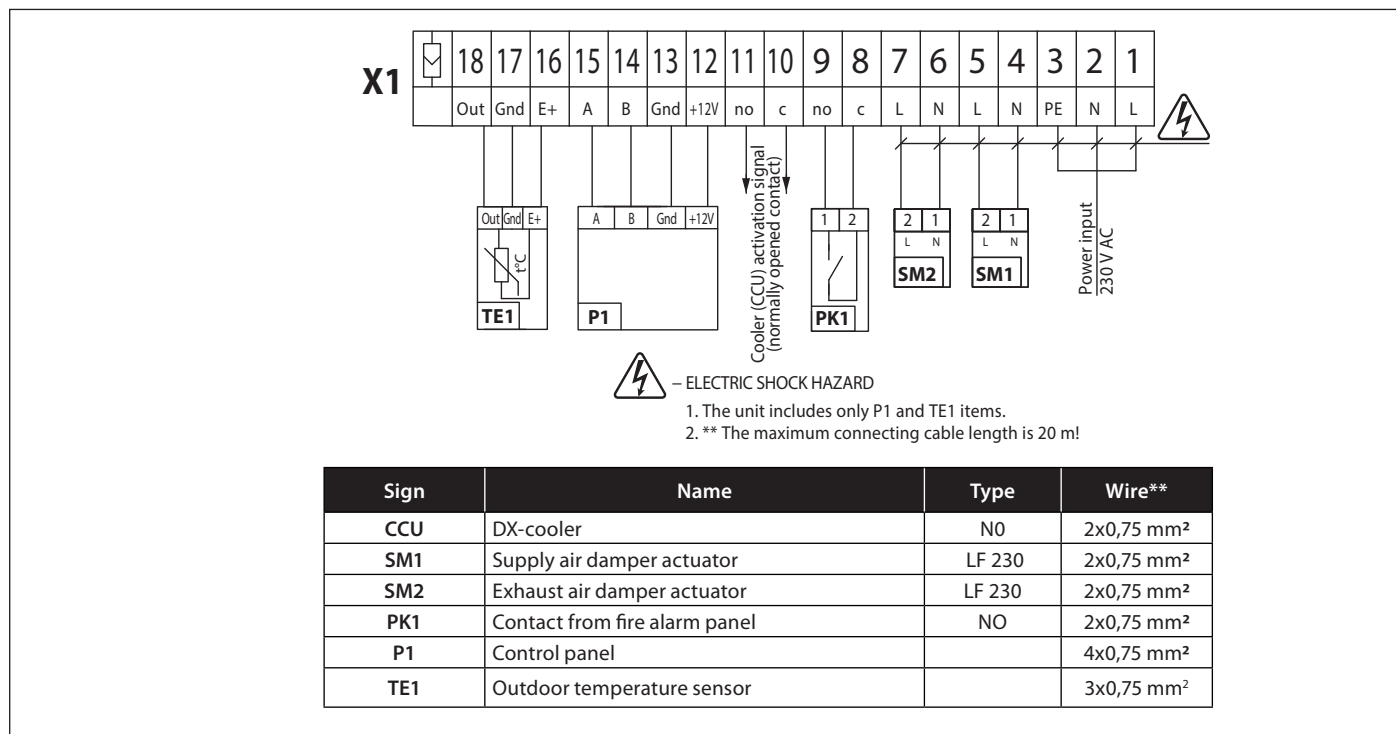
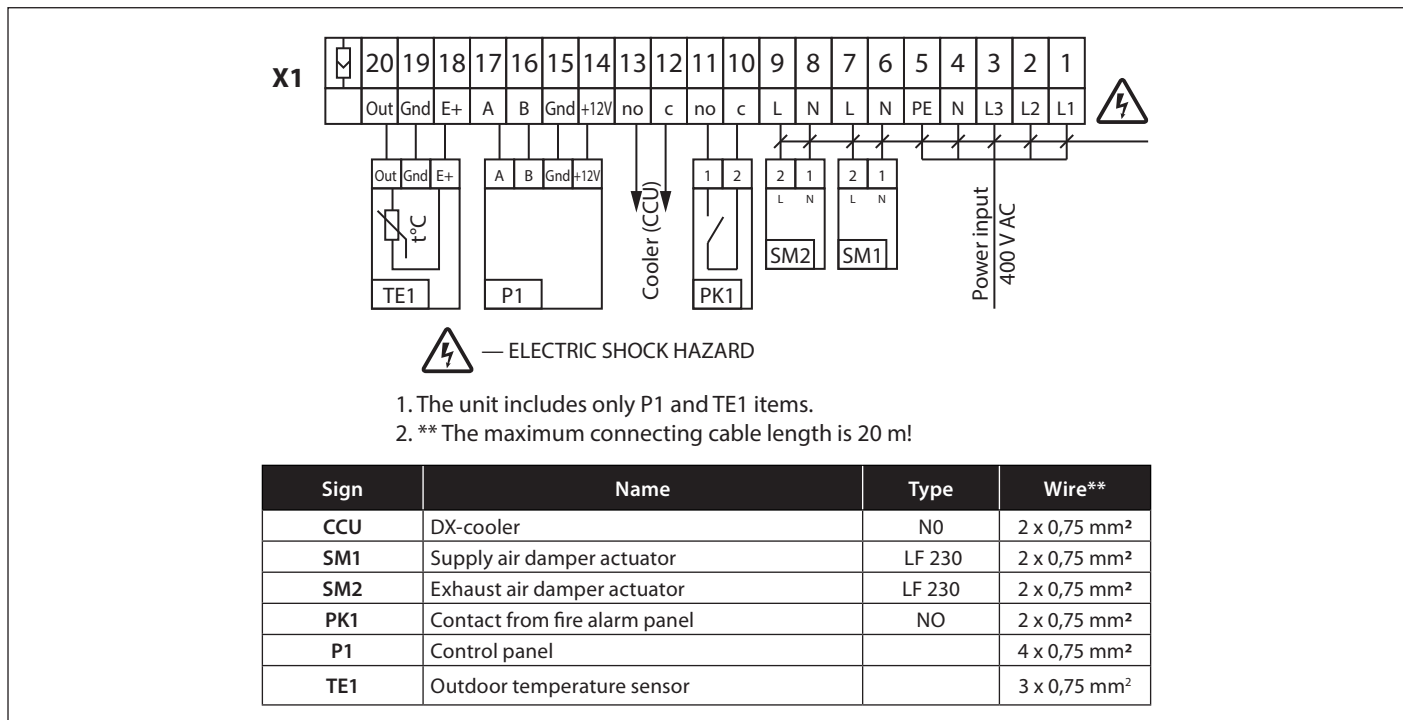

Fig. 9. KOMFORT EC DE400-1.5 ... EC DE1100-3.3 wiring diagram
Fig. 11. KOMFORT EC DE2000-12 ... EC DE4000-21 wiring diagram
The control unit compartment includes a terminal block with connected wires from the sensor control panel. The wiring diagram is shown in fig. 9 and the functional diagram is shown in fig. 10.
diagram is shown in fig. 11 and the functional diagram is shown in fig. 12. The unit must be grounded in compliance with the valid electrical standards of the user country!
5. Connect the sensor to the X1 terminal block in compliance with the electric wiring diagram, fig. 9 and fig. 11.